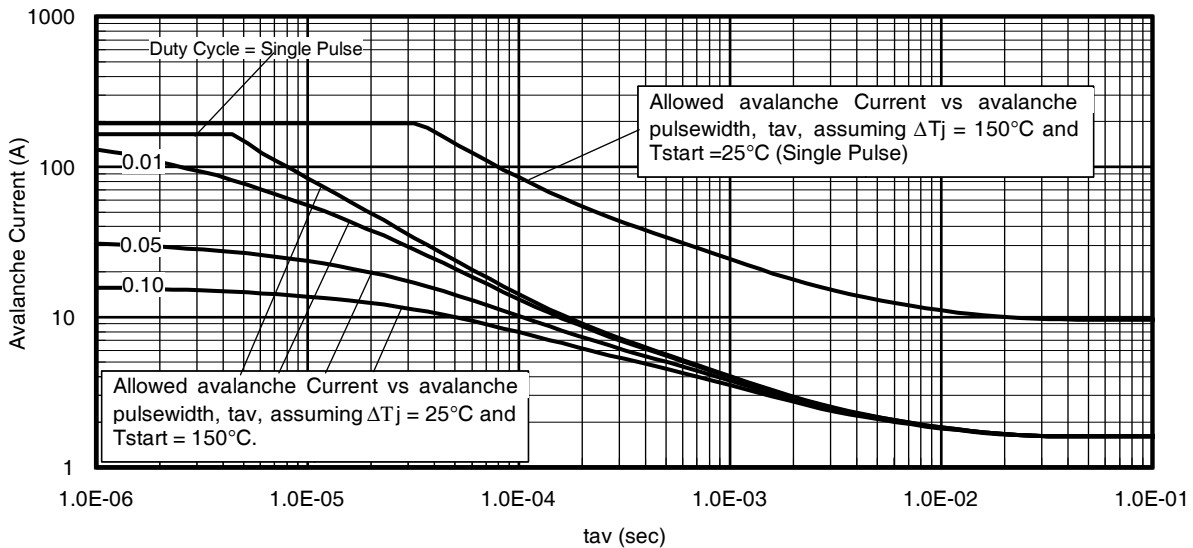

Fig 14. Typical Avalanche Current vs. Pulsewidth
- ④  $I_{SD} \leq 165A, di/dt \leq 430A/\mu s, V_{DD} \leq V_{(BR)DSS}, T_J \leq 175^\circ\text{C}$ .
- ⑤ Pulse width  $\leq 400\mu s$ ; duty cycle  $\leq 2\%$ .
- ⑥  $C_{oss\ eff. (TR)}$  is a fixed capacitance that gives the same charging time as  $C_{oss}$  while  $V_{DS}$  is rising from 0 to 80%  $V_{DSS}$ .
- ⑦  $C_{oss\ eff. (ER)}$  is a fixed capacitance that gives the same energy as  $C_{oss}$  while  $V_{DS}$  is rising from 0 to 80%  $V_{DSS}$ .
- ⑧ When mounted on 1" square PCB (FR-4 or G-10 Material). For recommended footprint and soldering techniques refer to application note # AN-994.
- ⑨  $R_{\theta j}$  is measured at  $T_J$  approximately  $90^\circ\text{C}$ .
- ⑩ Limited by  $T_{Jmax}$ , see Fig. 14, 15, 22a, 22b for typical repetitive avalanche performance.
- ⑪  $R_{\theta jc}$  value shown is at time zero.
**Notes on Repetitive Avalanche Curves, Figures 14, 15:**
7.  $\Delta T$  = Allowable rise in junction temperature, not to exceed  $T_{jmax}$  (assumed as 25°C in Figure 14, 15).